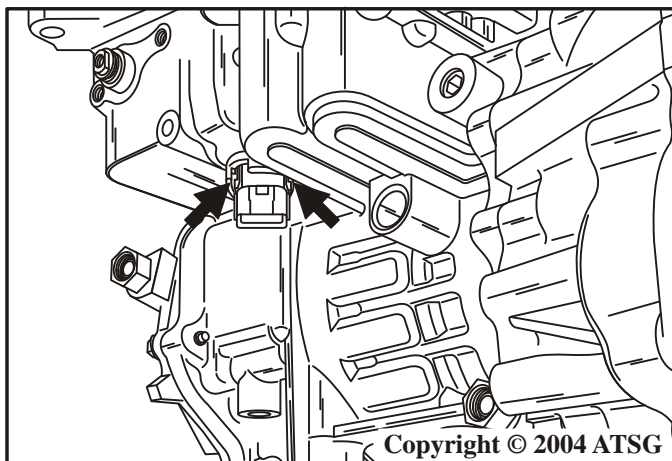

Figure 157
13. Install a new "O" ring on the connector of the internal wire harness, lubricate and install the internal wire harness through the case bore until the tabs lock it into position, as shown in Figure 157.